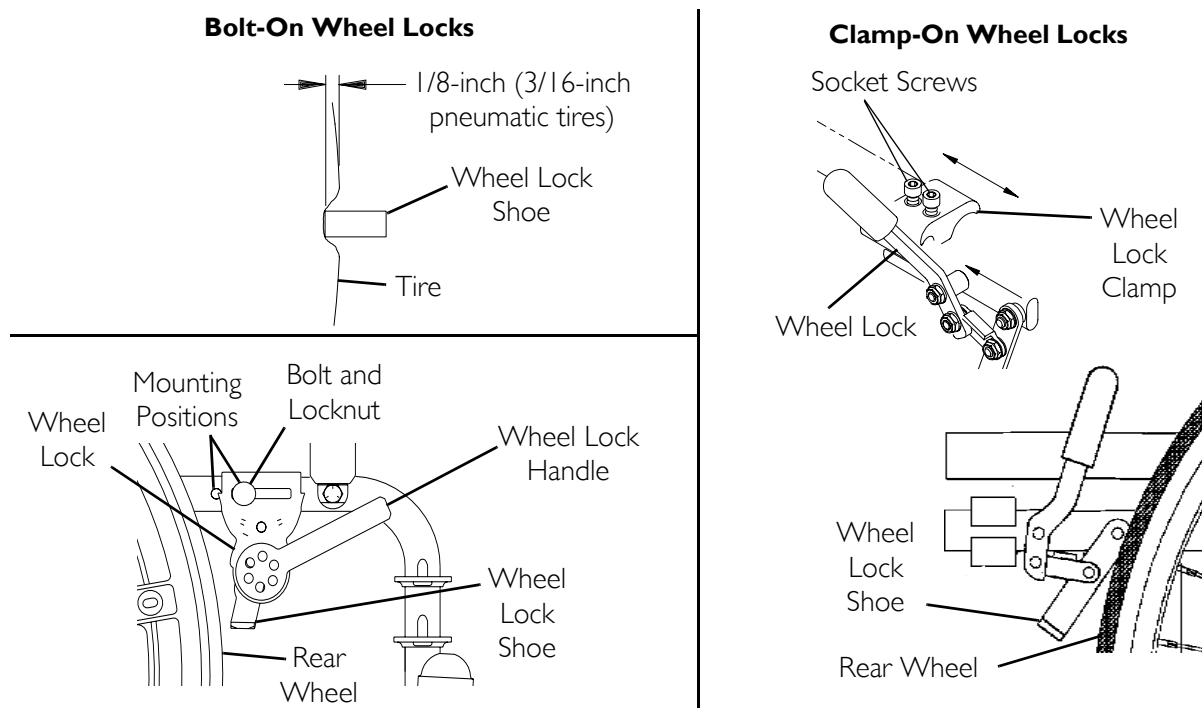

FIGURE 9.4 Adjusting Patient-Operated Wheel Locks
NOTE: For this procedure, refer to FIGURE 9.4.
6. Measure the distance the wheel lock is embedded into the tire as shown in FIGURE 9.4.